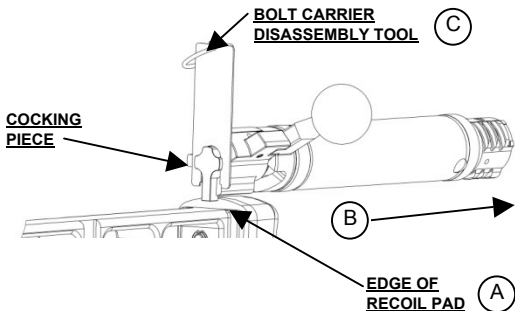

Figure 23.
It is recommended to use the hard edge of the recoil pad behind the groove on top of the buttplate assembly. (Figure 23, Step A.)
- Put pressure on the bolt carrier assembly against its spring tension in order to pull the cocking piece out enough to expose the 2 (two) disassembly slots. (Figure 23, Step B.) Only use the amount of force necessary to expose the slots in the cocking piece. Additional force could cause damage to the cocking piece or sear slot of the cocking piece shroud.
- Insert the bolt carrier disassembly tool into the two slots to retain the cocking piece in the disassembly position. (Figure 23, Step C.)